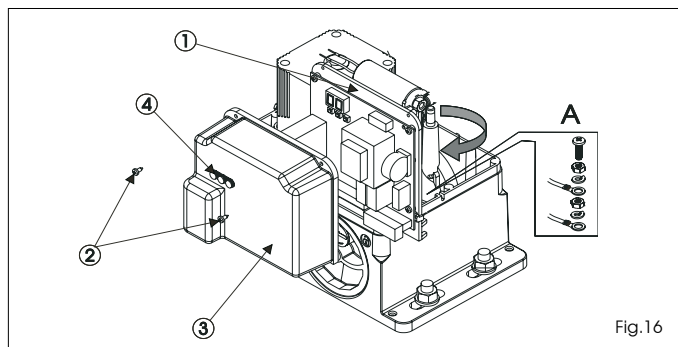

Fig.16
Connect the earth cables as shown in Fig.16 ref.A.
In the gearmotors, the electronic control unit is fitted to an adjustable support (Fig. 16 ref. 1) with transparent lid (Fig. 16 ref. 3).
The board programming push buttons (Fig. 16 ref. 4) have been located on the lid. This allow the board to be programmed without removing the lid.